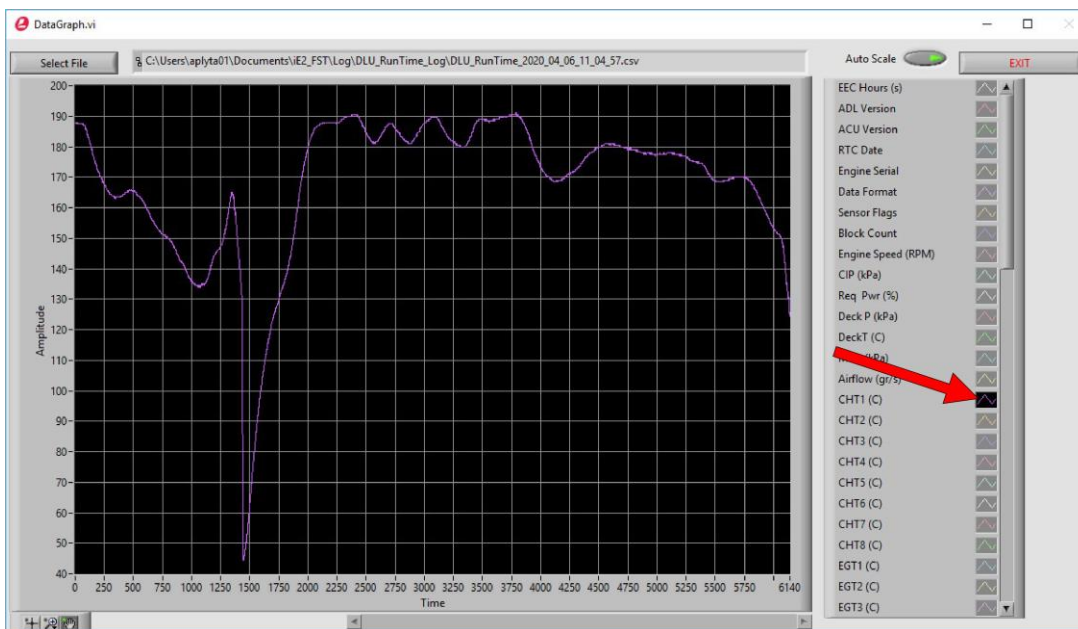

Figure 18
5. Right or Left click the button for the data you want to plot from the right-hand column (Figure 18).